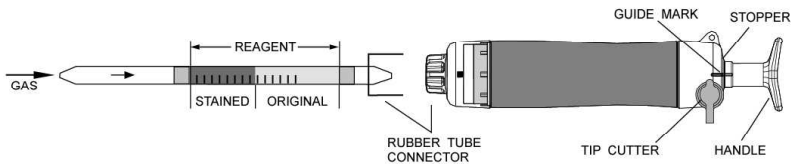

Fig.1
- ① Break both ends of detector tube.
- ② Insert the detector tube into aspirating pump securely as shown in Fig.1. (Arrow mark shall point to the pump.)
- ③ Align the guide marks on the shaft and stopper of the aspirating pump.
- ④ Pull the pump handle at full stroke until it locks and wait for 1.5 minutes or until the completion of sampling is confirmed with the flow indicator of the pump (See descriptions about the flow indicator in the instructions of the pump).
- ⑤ On completion of sampling, read the scale at the maximum point of the stained layer.
- ⑥ In case of 5 pump strokes: After the above step ④, push the handle without removing the detector tube from the pump inlet, turn it right or left by 1/5, and repeat the step ④ and this pushing procedure another three times.
- ⑦ On completion of 5 pump strokes sampling, read the scale at the maximum point of the stained layer and then multiply the reading value by 1/5.